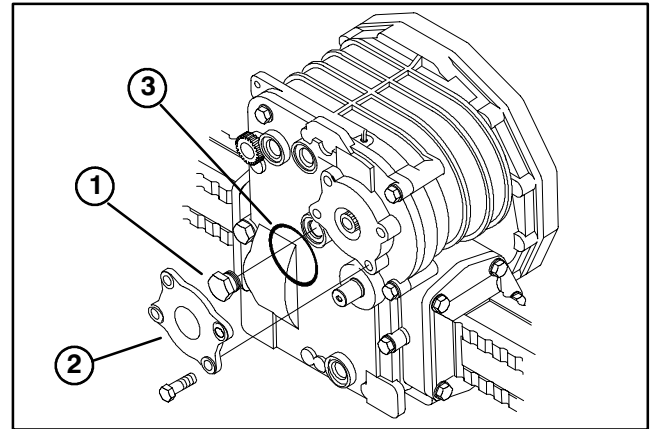

Figure 1
2. Remove plug (Fig. 1) from front of axle.
4. Remove (4) metric bolts securing cover plate (Fig. 1) to front of axle. Remove cover plate to expose PTO clutch shaft.